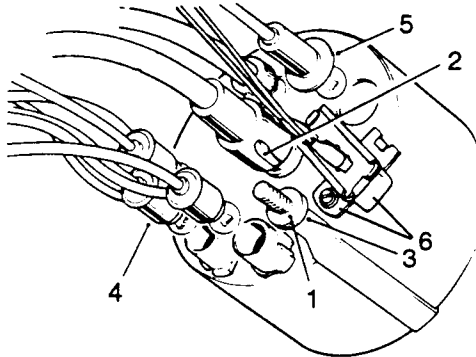

Fig O5.23
- (2) Refer to Fig O5.23. Remove the knurled nuts (1) at the speedometer clamp brackets.
- (3) Withdraw the earth lead eyelets (3) and shakeproof washers from the clamp studs.
- (4) Depress the spring clip and withdraw the speedometer cable (2).
- (5) Withdraw the speedometer clear of the instrument panel.
- (6) Withdraw the warning lamp (4) and illumination lamp (5) bulb holders.
- (7) Disconnect the leads from the instrument voltage stabiliser (6).
- (8) Remove the speedometer.